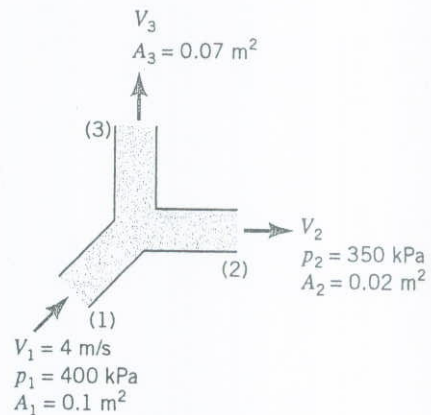

FIGURE P3.92
3.92 Water flows through a horizontal branching pipe as shown in Fig. P3.92. Determine the pressure at section (3).